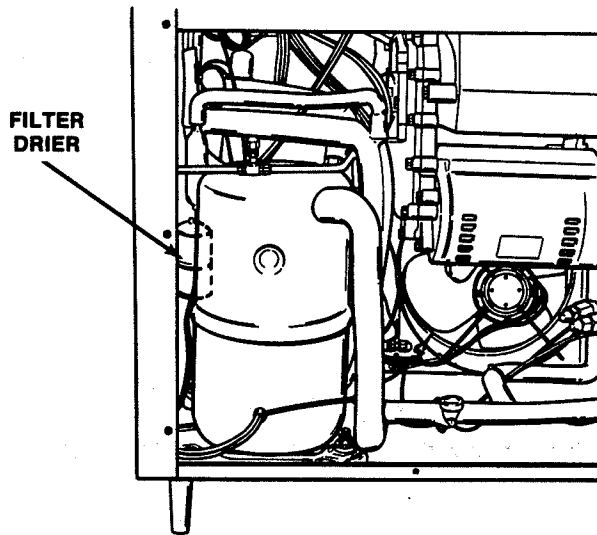

Figure 66. Filter Drier
10. Remove the old filter drier and install a new filter drier using the appropriate brazing material (Fig. 66).